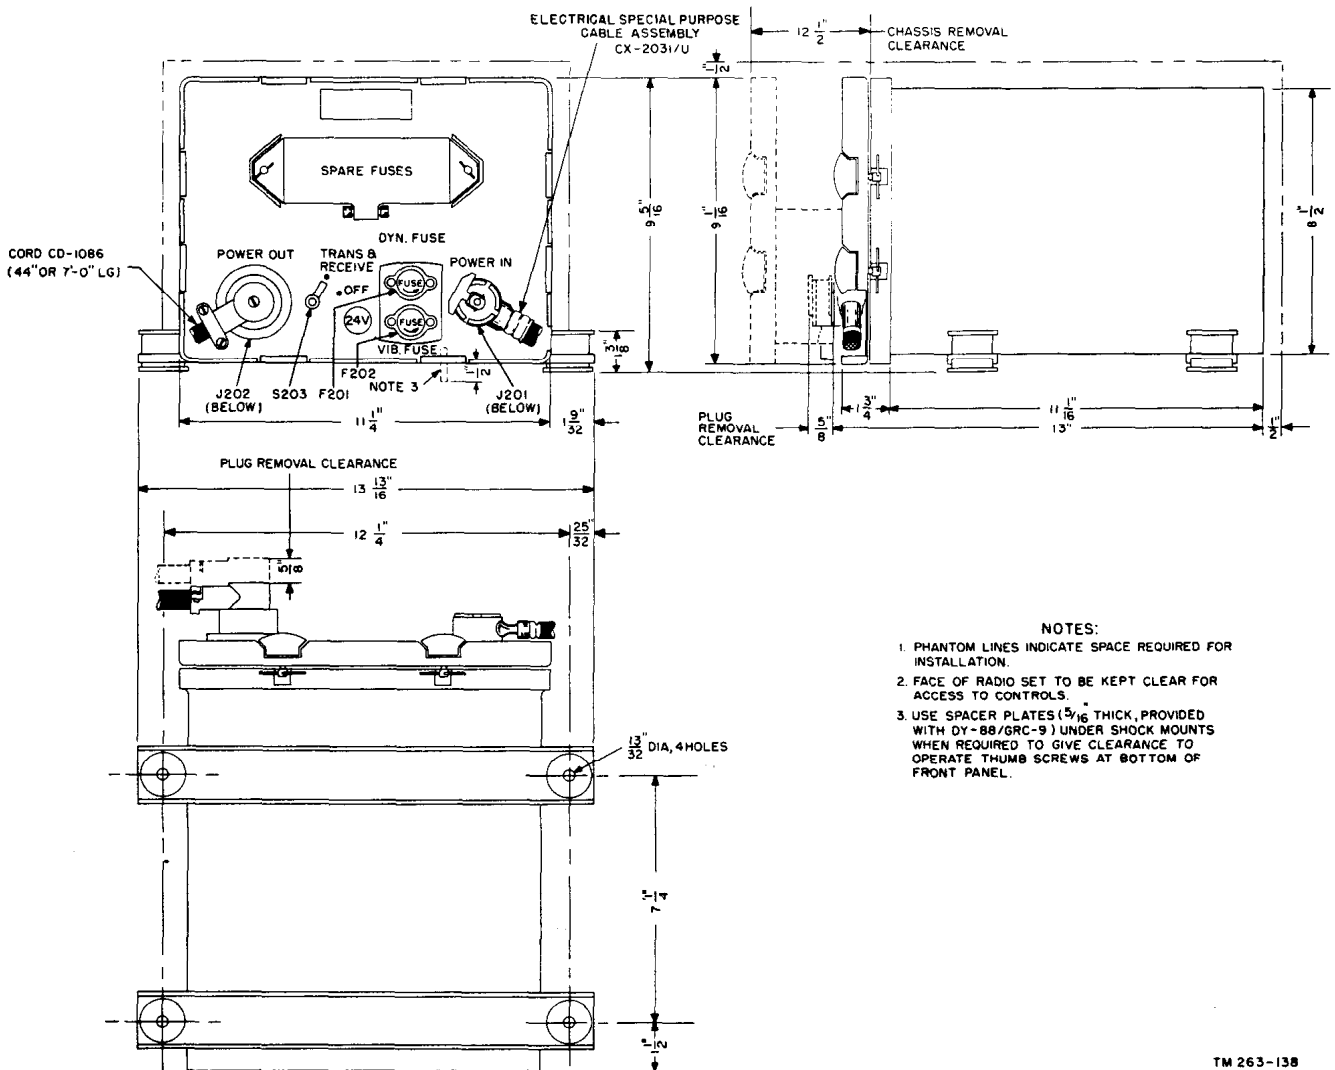

Figure 40. Dynamotor-Power Supply DY-88/GRC-9, outline dimensions and clearances.
- (3) Outline dimensions and clearances are shown in figure 40.